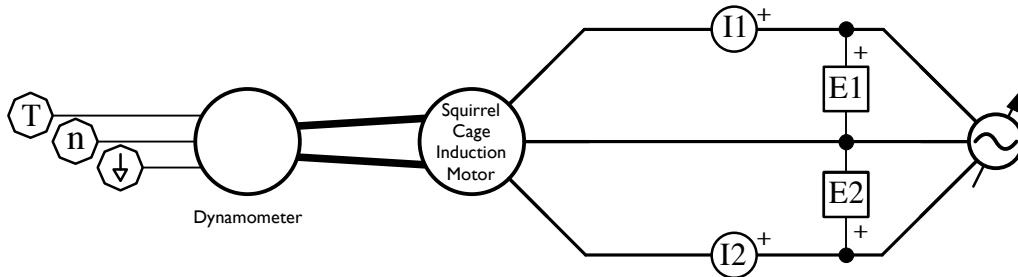

Figure 4.14: Three-Phase Squirrel Cage Induction Motor Circuit
5. Connect the squirrel cage motor to the variable ac power supply as shown in Figure 4.14. Connect the motor to the dynamometer with the timing belt, and connect the data cables for torque and speed to the the DAI.